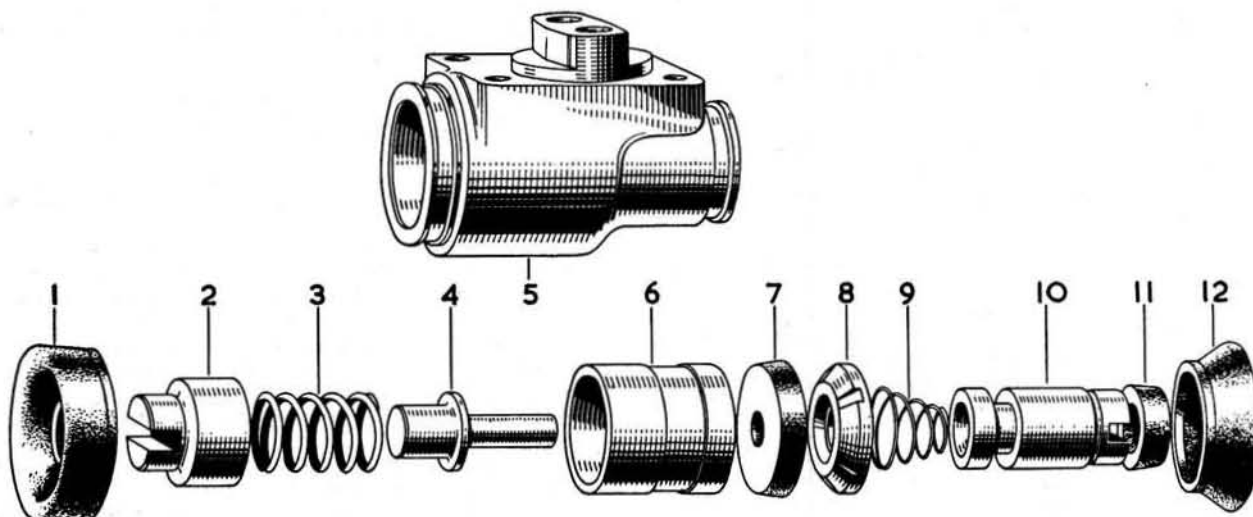

FIG.9.11. EXPLODED VIEW OF THE FRONT WHEEL CYLINDER
- 2 Refer to Fig. 9.11 which gives an exploded view of the cylinder.
- 3 Disengage the larger rubber boot from the piston end (2) and from the groove in the cylinder body.
- 3 Take out the piston end followed by the spring and the piston pin (4).
- 4 Disengage the rubber boot from the smaller piston (10) and from its groove in the cylinder body.
- 5 Using your fingers, push the piston from the smaller end through the bore to extract the larger piston (6), the cup (7), the cup filler (8) and the taper spring followed by the small piston.
- 6 Remove the taper seal (11) from the small piston by easing it out of its groove.